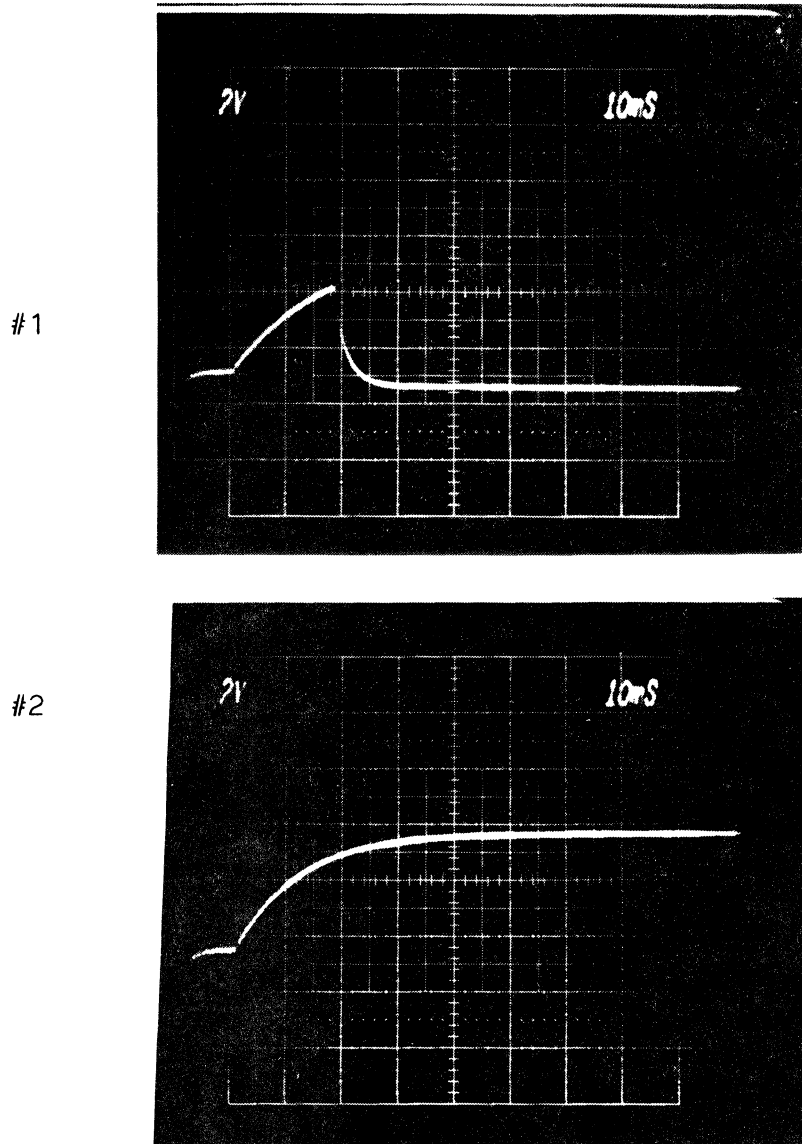

Fig. 13-3. Chirp Waveforms.
5. Set the scope's vertical sensitivity to 0.5 v/cm. Connect the vertical input of the scope to +5 V sense (TP4041) through a x10 probe. The two traces shown in Fig. 13-3 indicate the range of
The same procedure should be followed if there is insufficient voltage on the output. However, the most common causes of this problem are an open PNP driver transistor or an comparator that has failed (refer to Fig. 13-3).